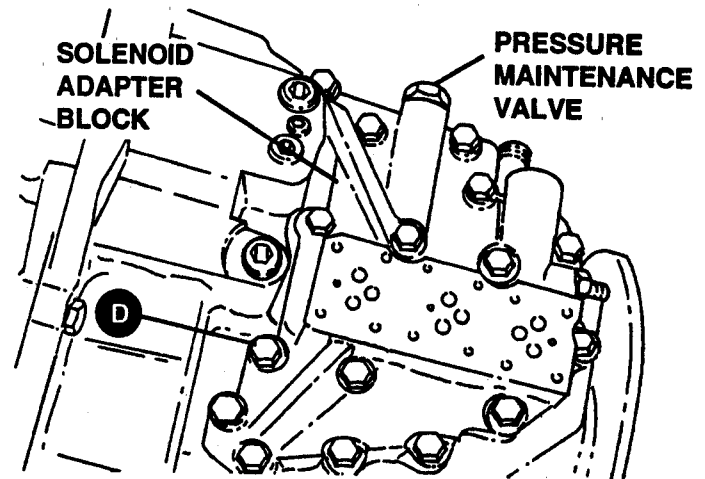

Figure 31.
36. Using a new gasket, fit the solenoid adapter block to the casing (Figure 31). Apply Loctite #270 to bolts (D) and tighten to torque of 21 lb-ft. (28 Nm).
37. Assemble pressure maintenance valve spool and spring into adapter block (Figure 31). Fit and tighten plug. Do not over-tighten as damage to the aluminum housing could result.